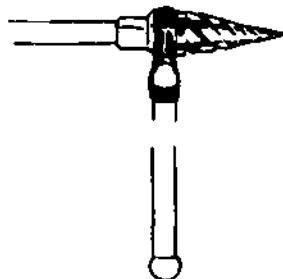

Figure 1-16. Spiral-Flute Reamer
b) The two basic hand reamers are shown in Figures 1-16 and 1-17.